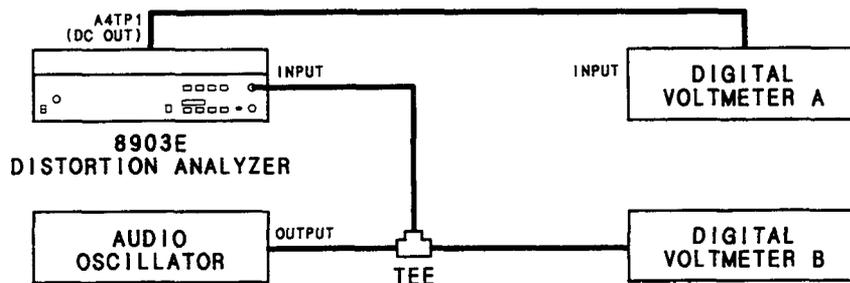

Figure 5-7. Voltmeter Adjustment Test Setup
Voltmeter A is optional. If one voltmeter is used, connect it, as required, between the points indicated in the procedure and Figure 5-7. Set it to read dc volts when connected to A4TP1 and ac volts when connected to the tee at the Distortion Analyzer's INPUT. Record the readings for comparison in subsequent steps.
2. Connect the equipment as shown in Figure 5-7. Connect voltmeter B to A4TP1 (DC OUT) and set it to measure dc volts. Set voltmeter A to measure ac volts. Set the audio oscillator to 2.5 Vrms at 1 kHz.